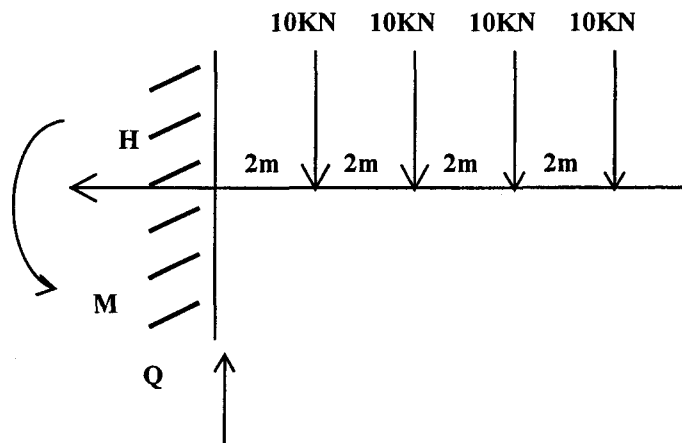

Figure 2.0/Rajah 2.0
2. (a) The support reaction consists of a moment M , a horizontal reaction H and a vertical reaction Q , as shown in **Figure 2.0**. Determine the reactions for the cantilever beam.